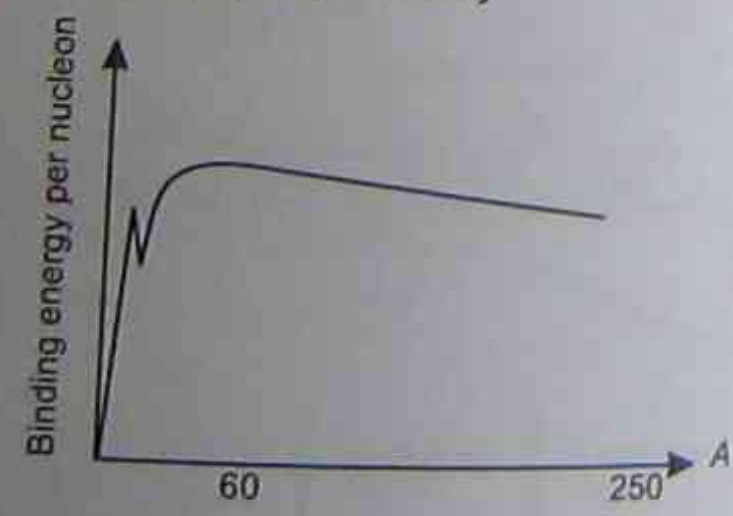

Figure 7.8
- (e) The curve of binding energy per nucleon for the elements is shown in Figure 7.8. By reference to the graph, explain why: